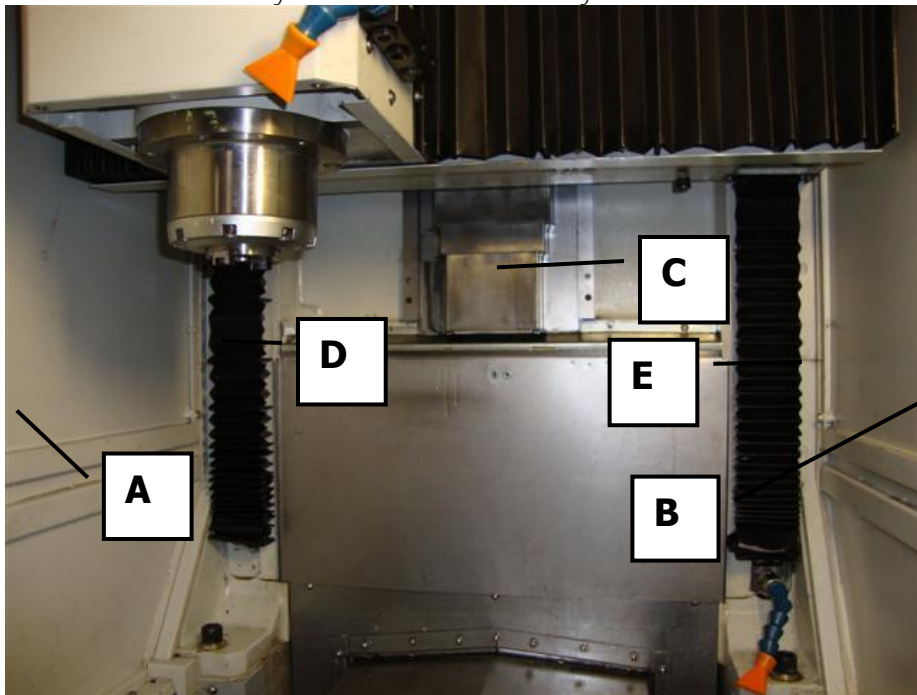

Figure 6.1.1a
- b. Refer to figure 6.1.1a.
3. Remove the Z-axis way covers left and right D & E, see figure 6.1.1a..